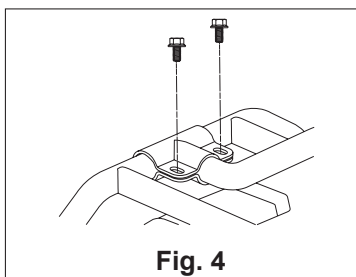

Fig. 4
4. Secure the brackets by using a 10mm socket and driver to install the four M8-1.25 x 16mm bolts (Fig. 4). Torque bolts to 17 foot pounds (204 inch pounds or 23 Nm).